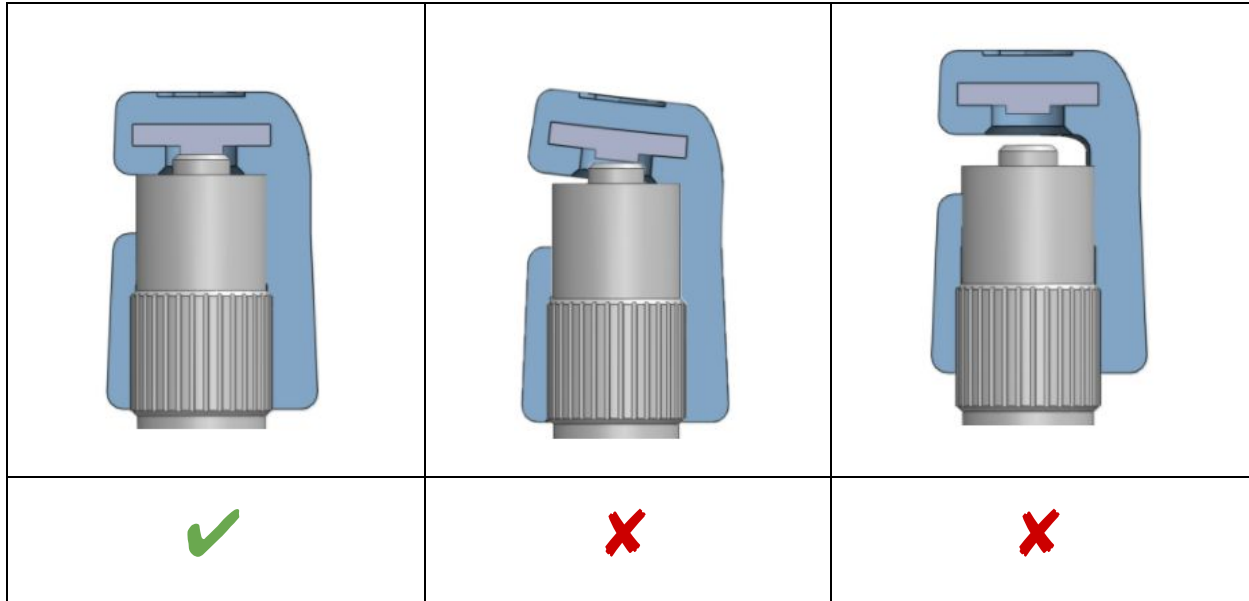

Figure 1: Proper positioning (left) and improper positioning (middle, right) of GloShield™ for Storz® fiber-optic light cables -- REF 16-2001
4. Ensure GloShield™ is positioned flush with the cable adapter such that the tip of the cable is covered (Figures 1 & 2).
9. Upon scope disconnection, verify light cable is covered (Figures 1 & 2).